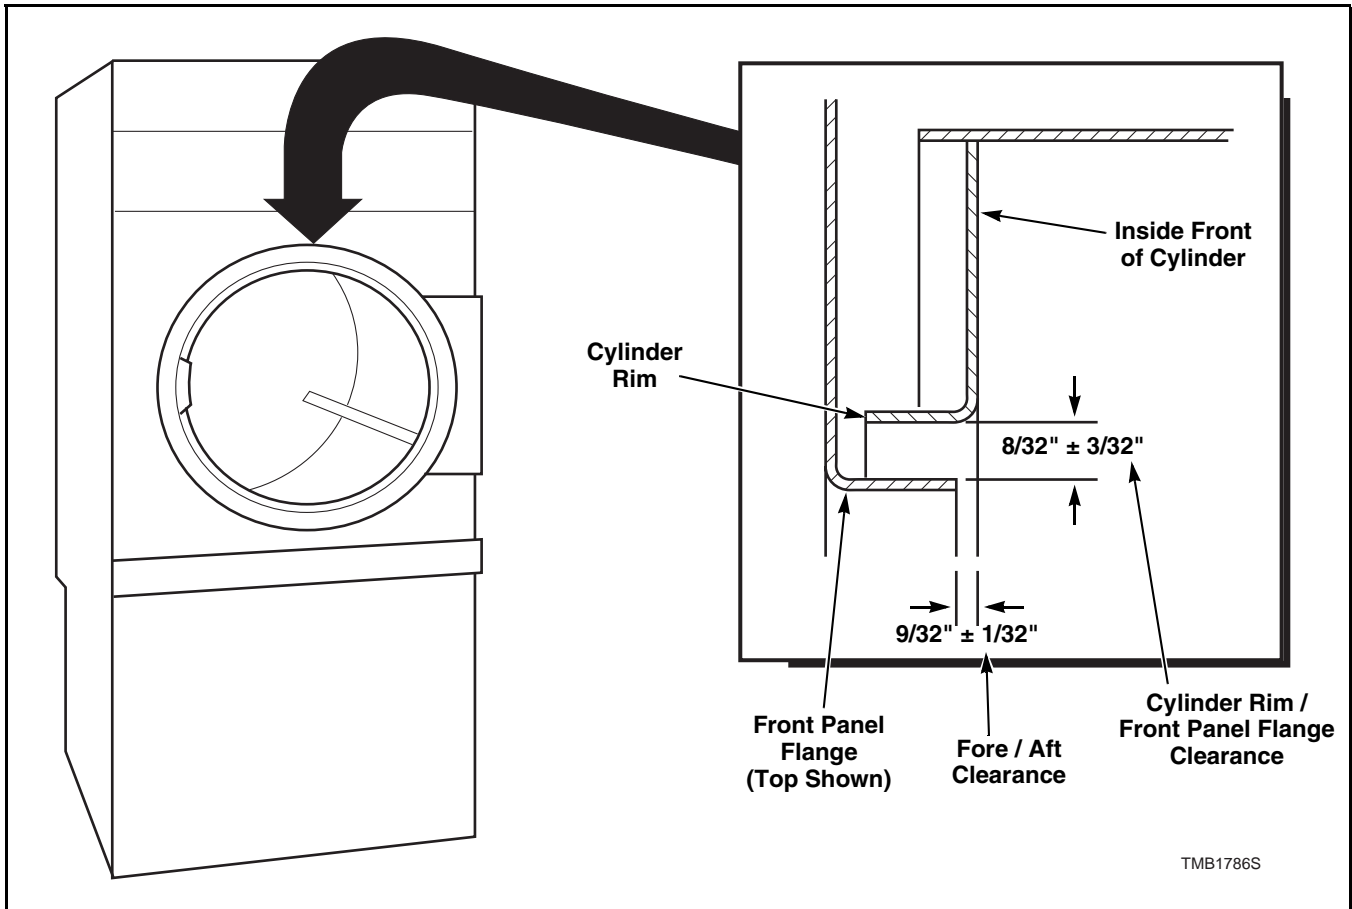

Figure 27
- b. Check the gap between the center of the front panel top flange and the cylinder rim. Proper adjustment is when the gap is  $8/32$  inch  $\pm$   $3/32$  inch. Refer to *Figure 27*. Perform steps d through i to adjust the cylinder rim/front panel flange clearance.
- c. Check the cylinder fore/aft clearance between the inside front of the cylinder and the edge of the front panel flange. Proper adjustment is when the gap is  $9/32$  inch  $\pm$   $1/32$  inch. Refer to *Figure 27*. Perform steps j through n to adjust the cylinder fore/aft clearance.